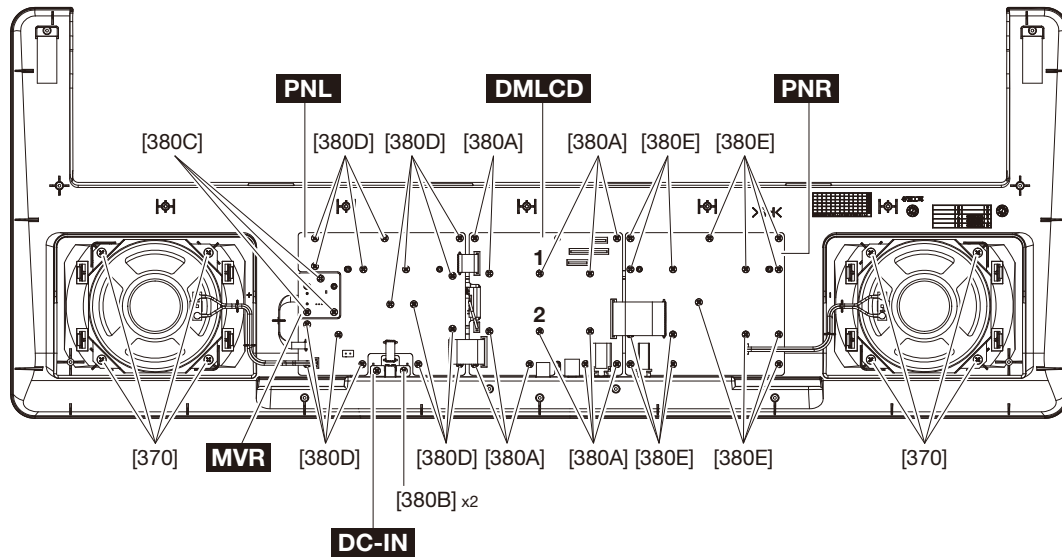

Fig.2
2. Remove the 12 screws [380A]. The DMLCD circuit board can then be removed. (Fig.2)
- * *When installing the DMLCD circuit board, tighten the screws 1 through 2 in numerical order. (Fig.2)*
1. Remove the 2 screws [380B]. The DC-IN circuit board can then be removed. (Fig.2)
2. Remove 3 screws [380C]. The MVR circuit board can then be removed. (Fig.2)
4. Remove the 16 screws marked [380D]. The PNL circuit board can then be removed. (Fig.2)
1. Remove 15 screws [380E]. The PNR circuit board can then be removed. (Fig.2)
2. Remove the 4 screws marked [370]. The speaker can then be removed. (Fig.2)